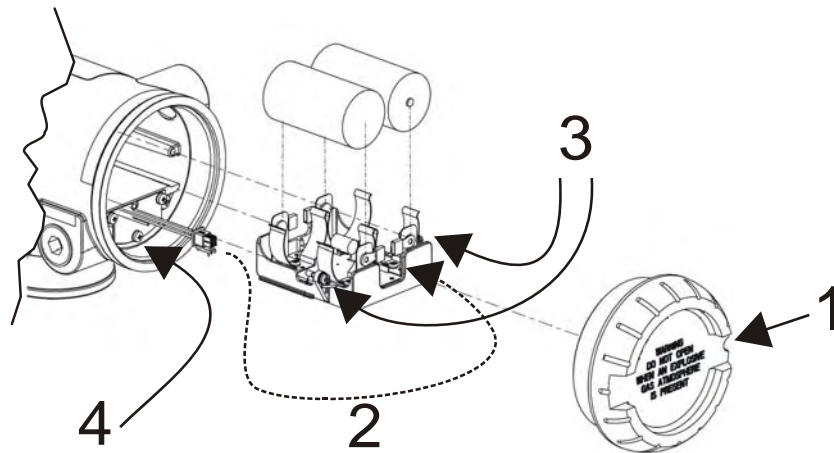

Figure 13 Terminal board replacement
2	Loosen the M3 locking set screw on the battery end-cap (opposite end from display). See item 1 in Figure 13. Unscrew and remove the end cap.
3	Using thumb and forefinger, squeeze the battery connector at top and bottom to disengage the locking mechanism, then pull to disconnect. See item 2 in Figure 13.
4	Loosen the two battery holder retaining screws (closest to the batteries). See item 3 in Figure 13. The screws are captive.
| 7    | Remove and save the 3 screws that attach the terminal board to the housing. Take care because these screws are not captive. See item 4 in Figure 13.   |